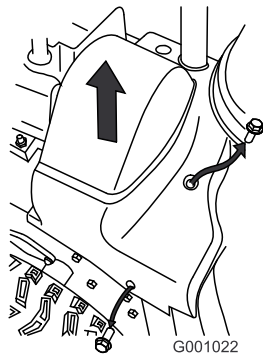

Figure 37
2. Lift up the right side of the belt cover (Figure 37).